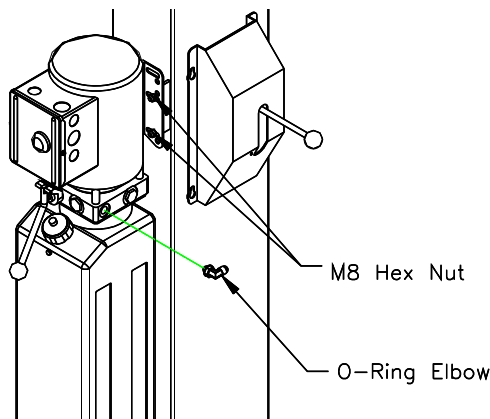

Fig 6 – Power Unit Mounting
- 19) Mount Power Unit to power column as shown in **Fig 6**. The mounting hardware, (4) M8 hex nuts, are pre-installed on power unit mounting bracket.